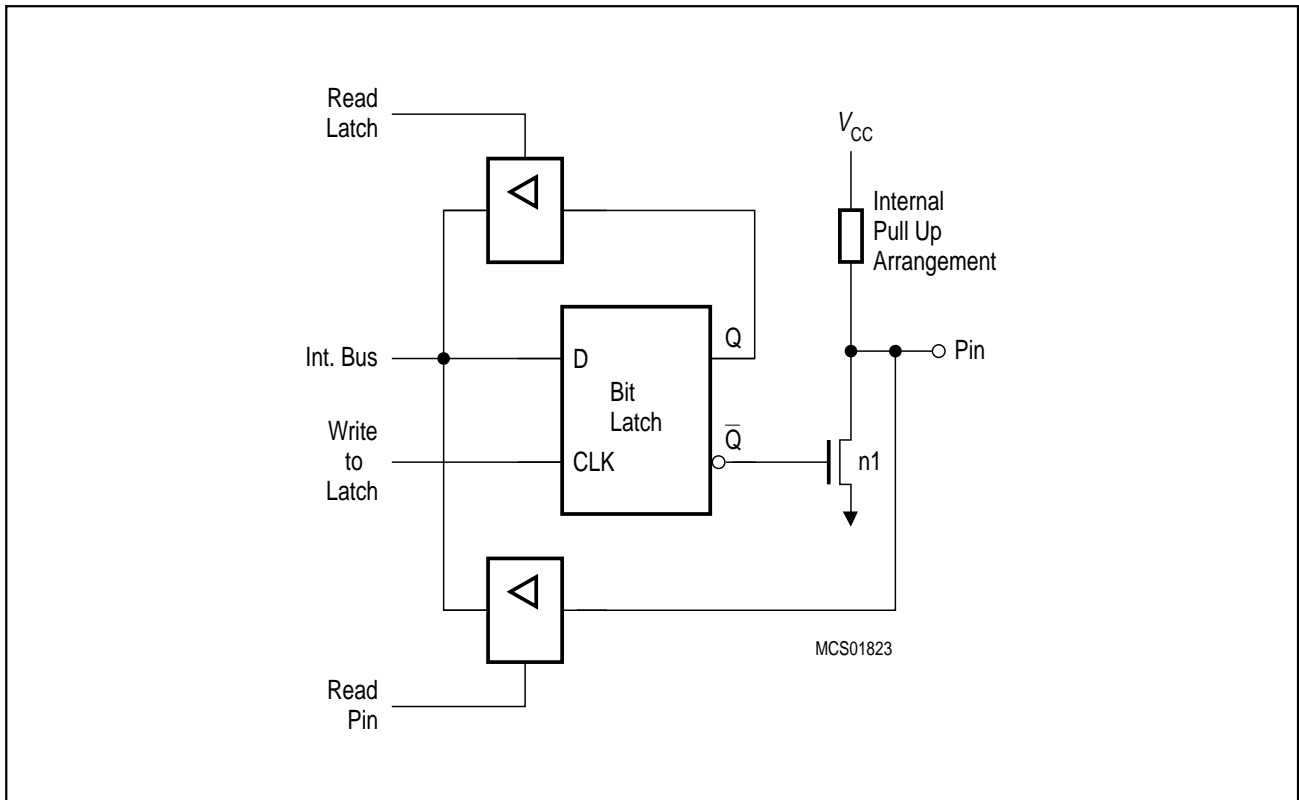

Figure 6-2
The output drivers of port 1 to 5 have internal pullup FET's (see **figure 6-2**). Each I/O line can be used independently as an input or output. To be used as an input, the port bit stored in the bit latch must contain a one (1) (that means for **figure 6-2**: $\bar{Q}=0$), which turns off the output driver FET n1. Then, for ports 1 to 5 the pin is pulled high by the internal pullups, but can be pulled low by an external source. When externally pulled low the port pins source current (I_{IL} or I_{TL}). For this reason these ports are called "quasi-bidirectional".
In fact, the pullups mentioned before and included in **figure 6-2**, **6-4** and **6-5** are pullup arrangements.